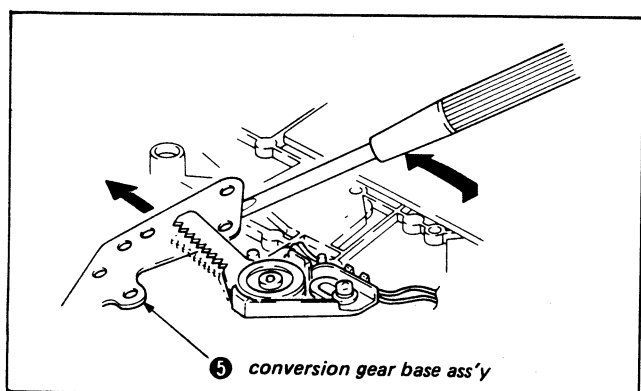

Fig. 3-40.
- 3) Remove screw ① and MD harness clasper A ②.
- 4) Remove timing belt ③.
- 5) Remove screw ④ and remove conversion gear base assembly ⑤ with a screwdriver. (Fig. 3-40, 3-41)